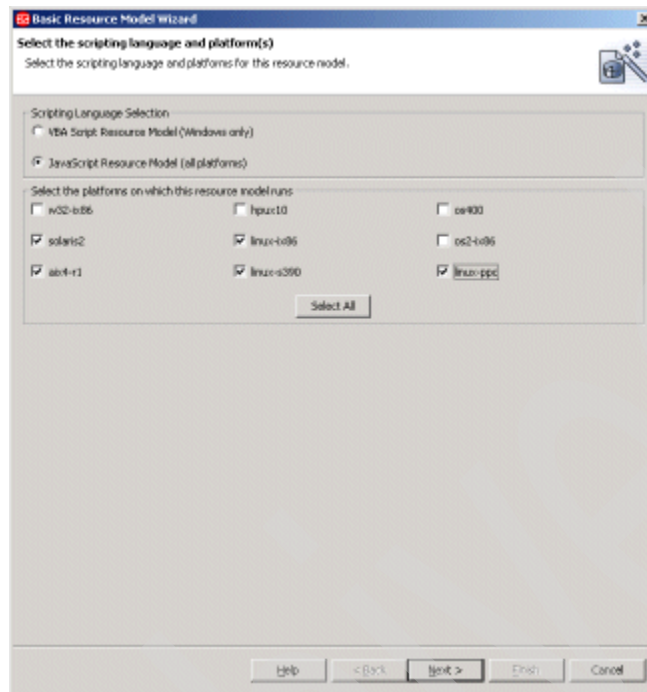

Figure 9-39 Selecting platforms on which the resource model runs
9. Select all UNIX and Linux platforms as shown in Figure 9-39 on page 461.